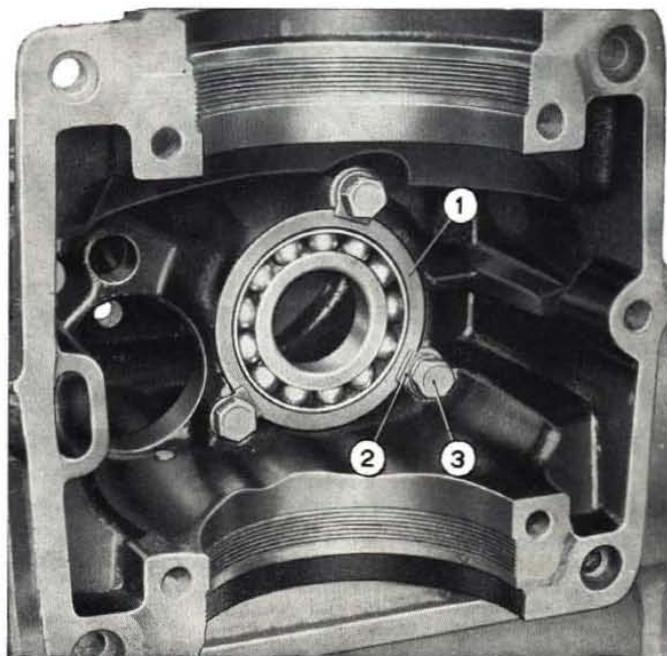

Fig. 177 - Drive pinion bearing in place in transmission case.
- secure the drive pinion bearing with screws and lock plates (fig. 177);